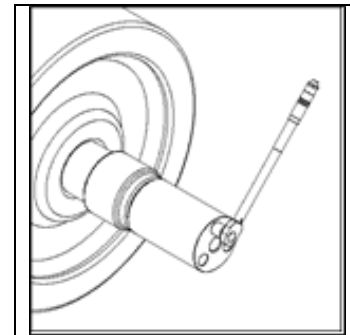

Figure 16 – Guide Tube Attachment
- 5.3.1 To install a bearing assembly on an axle; attach the Guide Tube to the end of the axle with the cap screws provided (Figure 16).